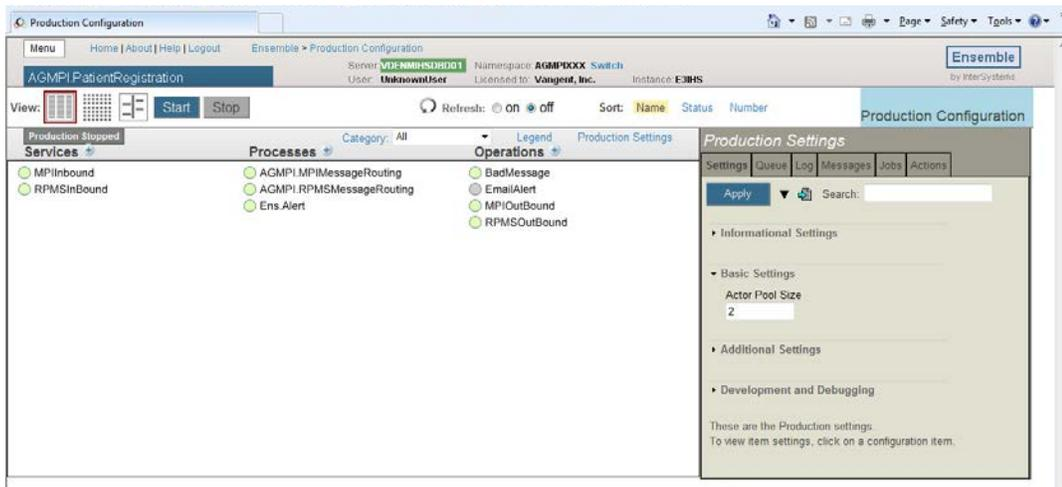

Figure 5-6: AGMPI.PatientRegistration production instance
3. The **Production Configuration** page for the selected namespace is displayed, as shown in Figure 5-6.
6. Once you open a production, and on subsequent visits to the page, the page displays the configuration for that production, as shown in Figure 5-6.